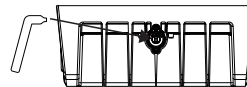

FIGURE 5.1
1. Remove the fixture from the box, and insert the included tool into the slot within the adjustment knob (FIG 5.1)